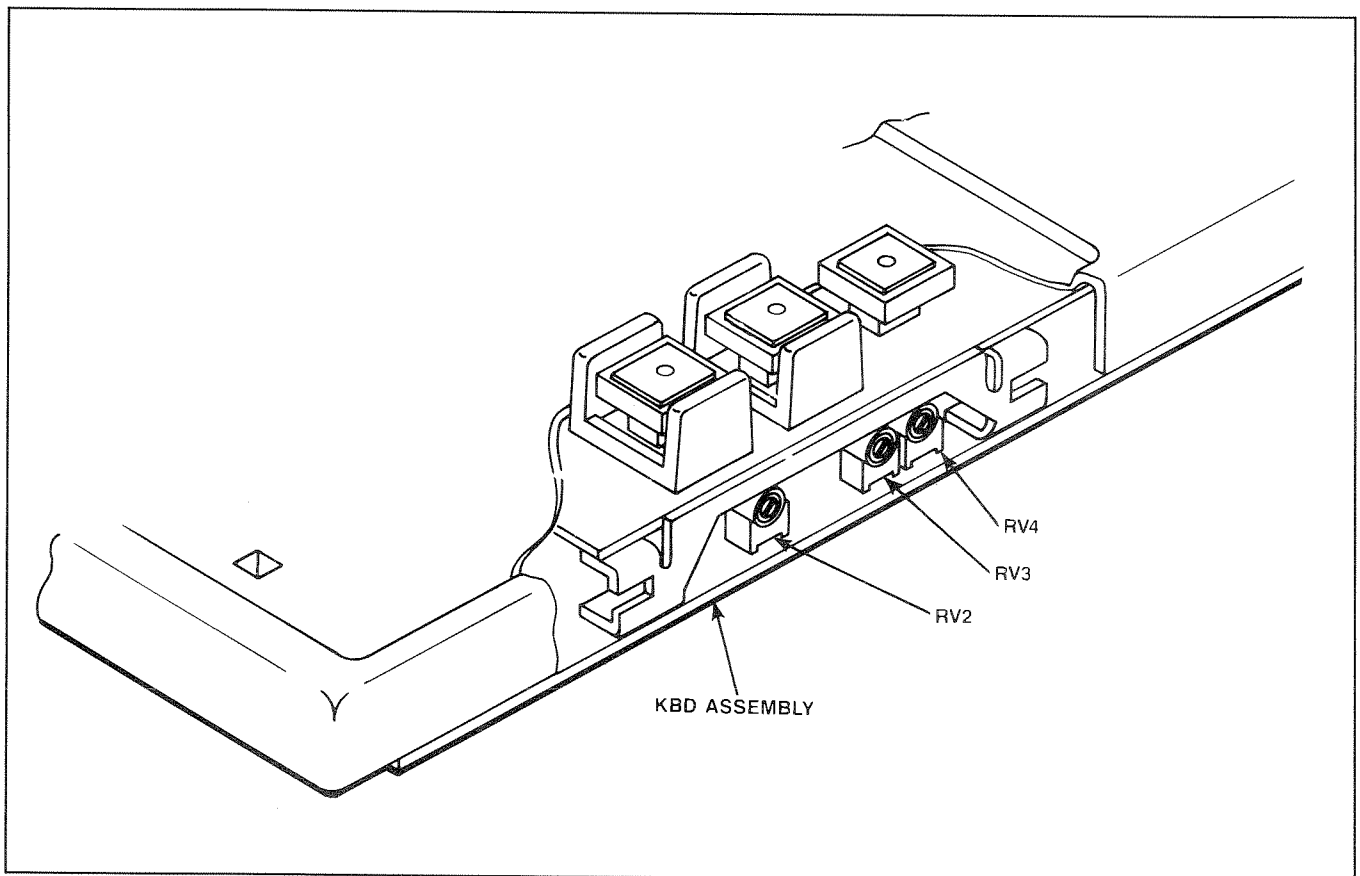

Figure 6-27. KBD Adjustments
**STEP 5** Remove the top side cosmetic cover. The EOT adjustment screws are visible from the side of the KBD. (See Figure 6-27.)
- STEP 5** Adjust RV2 so that the tape does not move when the MVC is touched with the free allowance of the mechanical return spring. Refer to Figure 6-27 for the location of RV2 on the KBD.